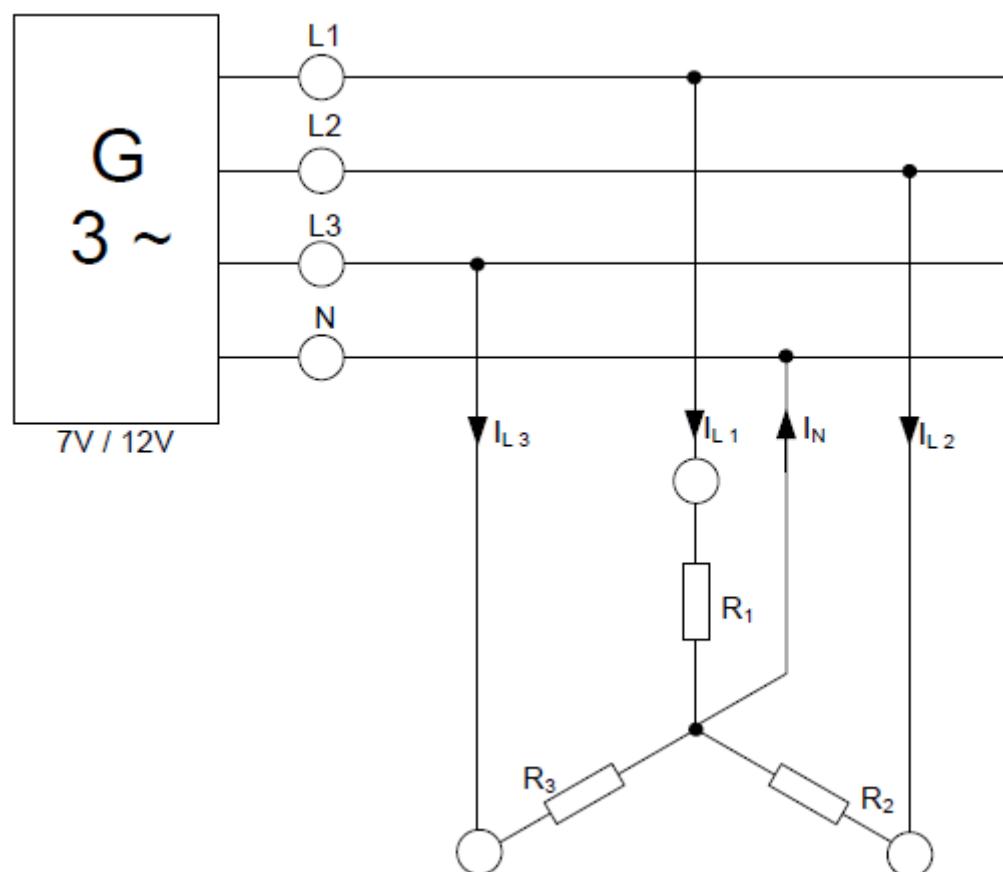

Figure 9.3 Balanced Y-Y system
- Connect a symmetric load to the circuit as shown in figure 9.3.